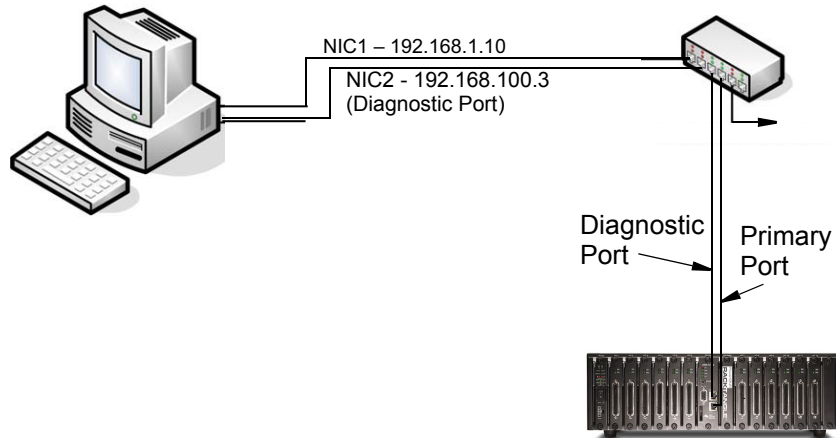

Figure 2-6. Typical Configuration for a Single DNR-12-1G with a LAN Switch
STEP 7: The system should now be configured as shown in **Figure 2-6**.